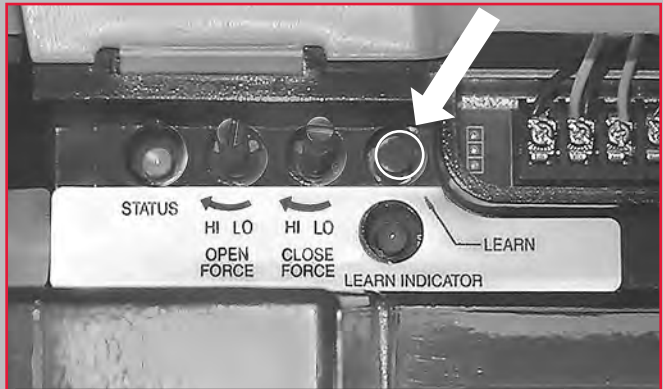

Fig. 6-2 Learn code button/indicator
- Locate learn code button and learn indicator on power head (Fig. 6-2).